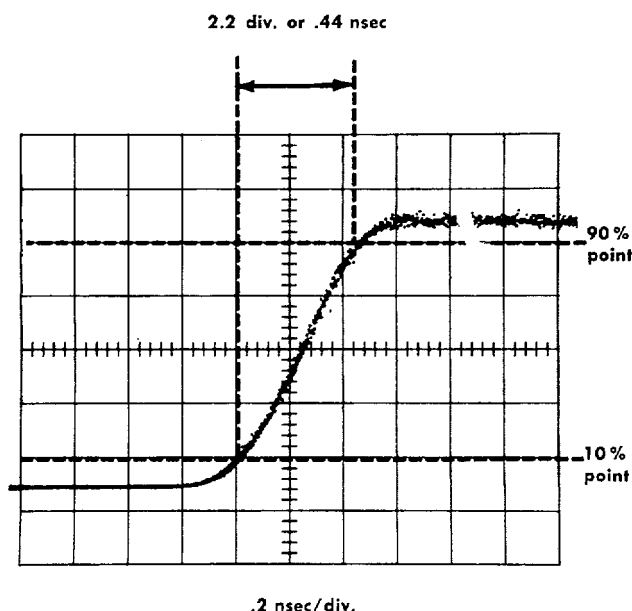

Fig. 6-6. Rising portion of a pulse with the risetime set for 0.44 nanosecond between 10% and 90% amplitude points.
6. Adjust the SNAP-OFF CURRENT* adjustment for a risetime of 0.41 to 0.44 nsec, measured between the 10% and 90% amplitude points of the signal (see Fig. 6-6).
2. Adjust the B BRIDGE VOLTS for a risetime of 0.41 to 0.44 nsec between the 10% and 90% amplitude points of the signal (see Fig. 6-6).